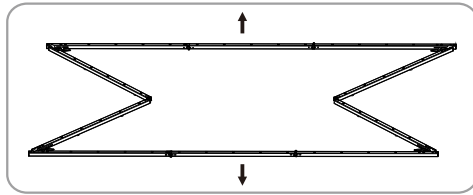

Figure 7
4. Extend vertical sides of the frame and "click" hingers into place ( Figure 7 ).